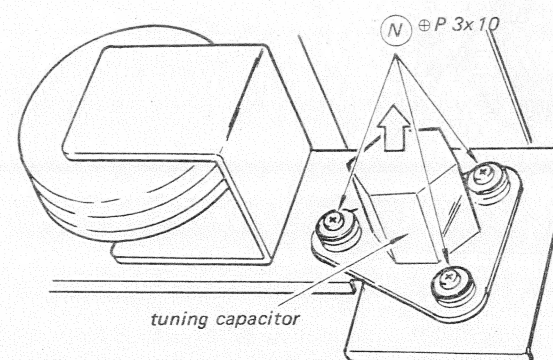

Fig. 2-19.
5. Remove the three screws marked ⑦ in Fig. 2-19 and pull off the a-m tuning capacitor in the direction shown by the arrow.